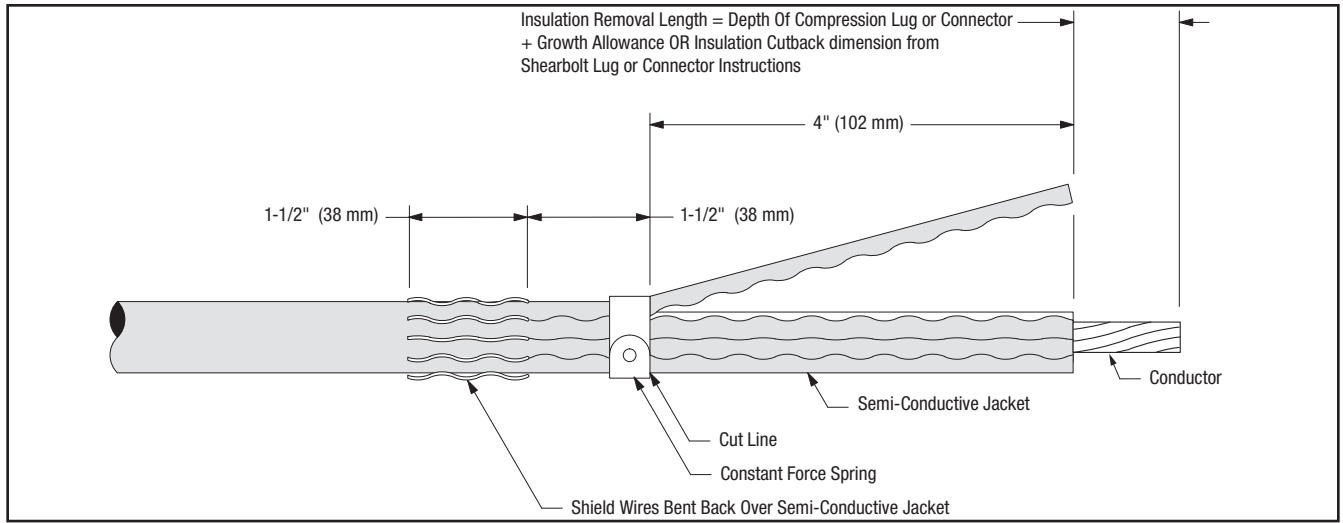

Figure 18
12.7 Remove semi-conductive jacket to dimension shown in Figure 18.
NOTE: To ease jacket removal, install constant force spring as shown in Figure 18 and ring-cut 80% through jacket. Remove jacket sections by pulling against constant force spring. DO NOT BELL SEMI-CON JACKET. Remove constant force spring.